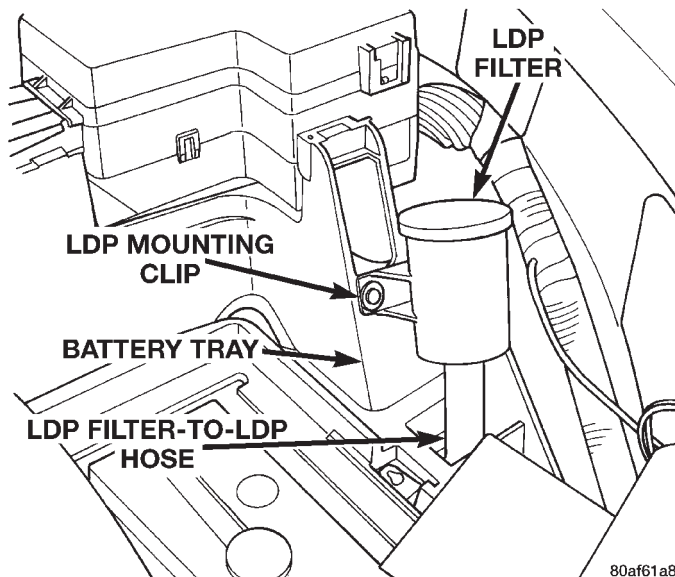

Fig. 18 LDP Filter Location
outside of battery tray (Fig. 18). The LDP and LDP filter are replaced (serviced) as one unit.
- (1) Disconnect negative battery cable at battery.
- (2) Remove battery. Refer to Group 8A, Battery for procedures.
- (3) Carefully disconnect rubber hose from bottom of LDP filter (Fig. 18).
- (4) Remove clip retaining LDP filter to battery tray (Fig. 18) and remove filter from tray.
- (5) Disconnect battery temperature sensor pigtail wiring harness at bottom of battery tray.
- (6) To gain access to LDP, the PDC must be partially removed. Remove PDC-to-fender mounting screw at rear of PDC. Unsnap PDC from battery